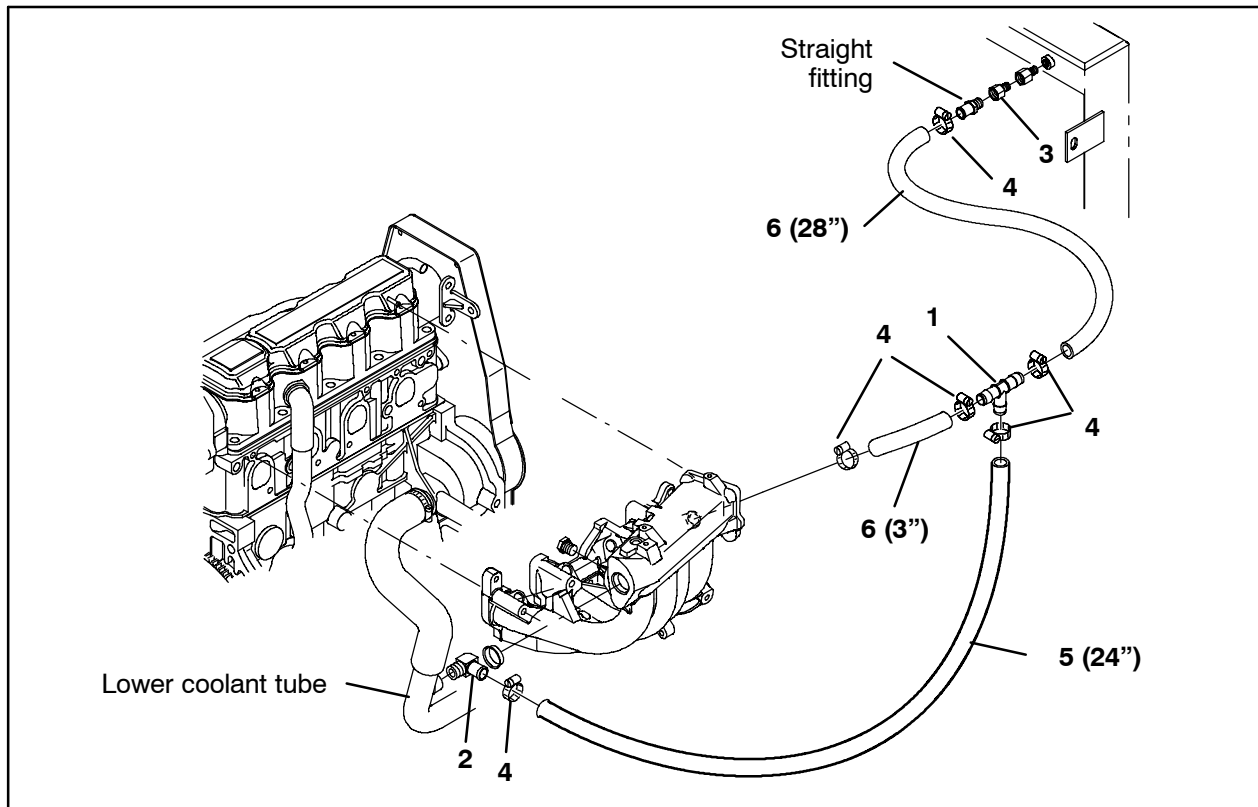

FIG. 5
13. Use a hose clamp (4) to connect the other end of the 3" hose (6) to the engine. Refer to Fig. 5.
14. Use a hose clamp (4) to connect the 24" hose (5) to the plastic t-fitting (1). Refer to Fig. 5.
16. Use a hose clamp (4) to connect the 24" hose (5) to the 90° brass fitting (2) installed on the lower coolant tube. Refer to Fig. 4 and Fig. 5.